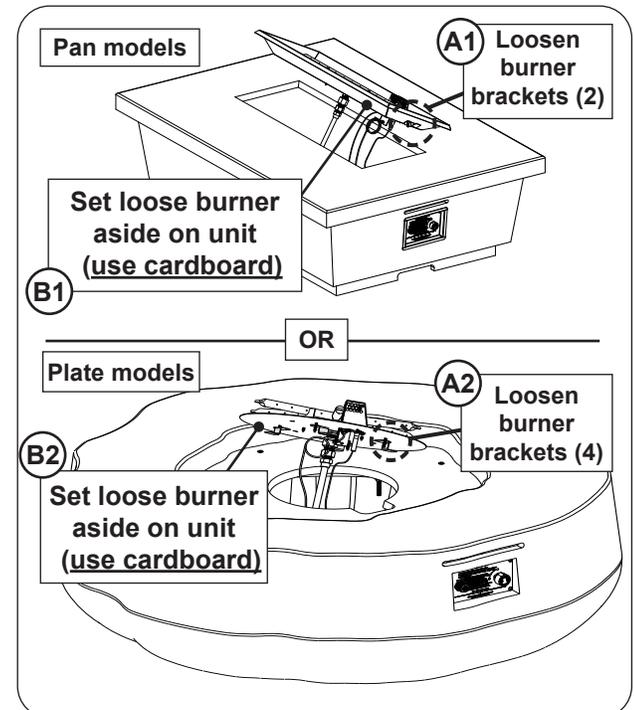

Fig. 29-3 Gain access to interior of unit
3. Use a $\frac{5}{16}$ " nut driver to loosen the 2-4 screws found on the burner assembly (see Fig. 29-3, A).
4. Carefully lift out the burner just enough to set it off to the side (see Fig. 29-3, B).